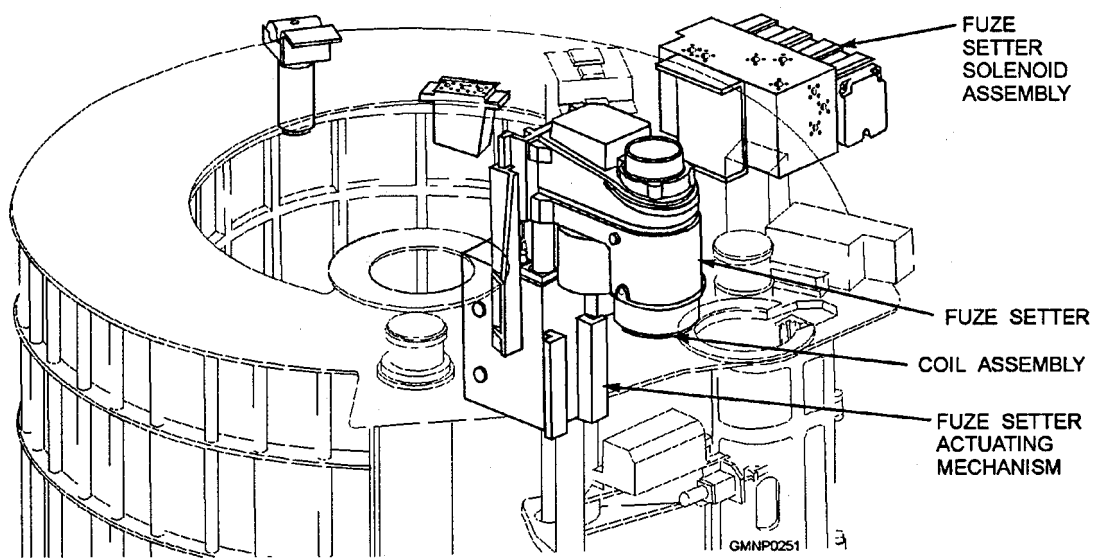

Figure 4-59.—Fuze setter.
The fuze setter (fig. 4-59), an electrohydraulic device mounted atop the support structure for the loader drum, sets mechanical time (MT) or control variable time (CVT) fuzes on projectiles positioned for mechanical fuze setting in the transfer station. The coil assembly, at the base of the fuze setter, energizes to set the ESFs electronically (electronically settable fuzes).